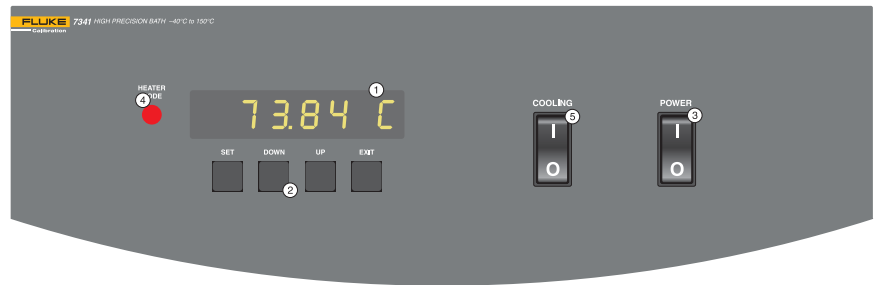

Figure 3 *Front Control Panel*
The following controls and indicators are present on the controller front panel (see Figure 3 below): (1) the digital LED display, (2) the control buttons, (3) the bath on/off power switch, (4) the control indicator light, and (5) the cooling on/off switch.